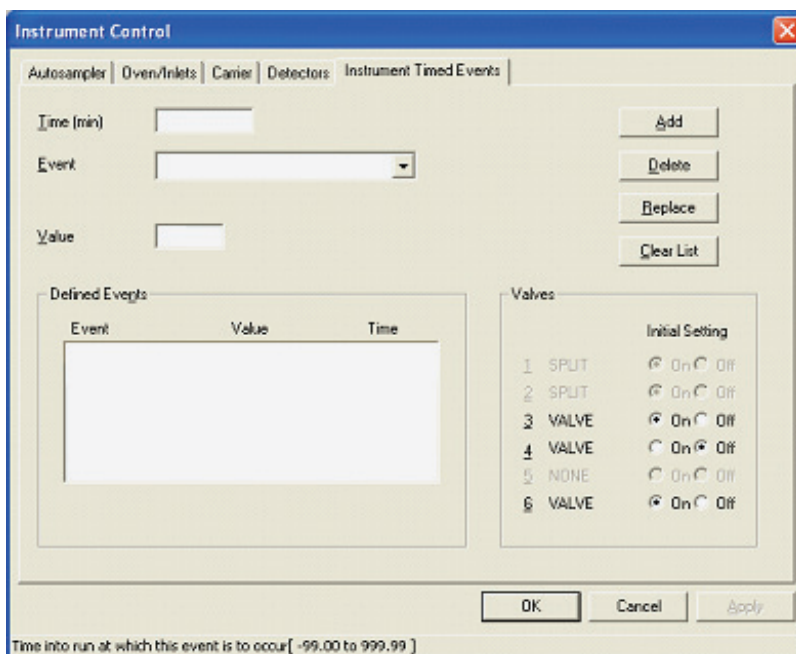

Figure 73 Instrument Timed Events tab
4. Use the Instrument Timed Events tab to activate the correct timed event output for your experiment, which will operate the GSV assembly (Figure 73).